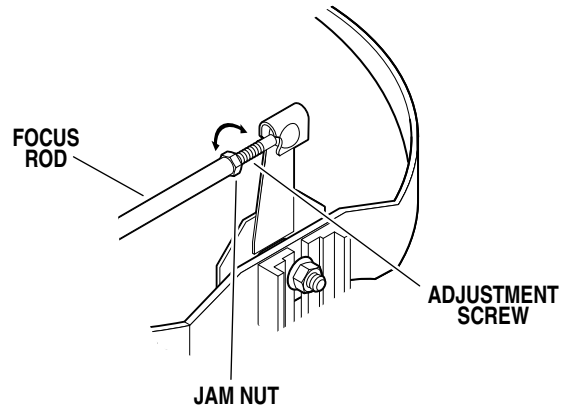

Figure 1-4.
- d. To adjust a misaligned bulb holder, loosen the jam nut on the affected focus rod and turn the adjustment screw as needed to achieve proper alignment. See figure 1-4.